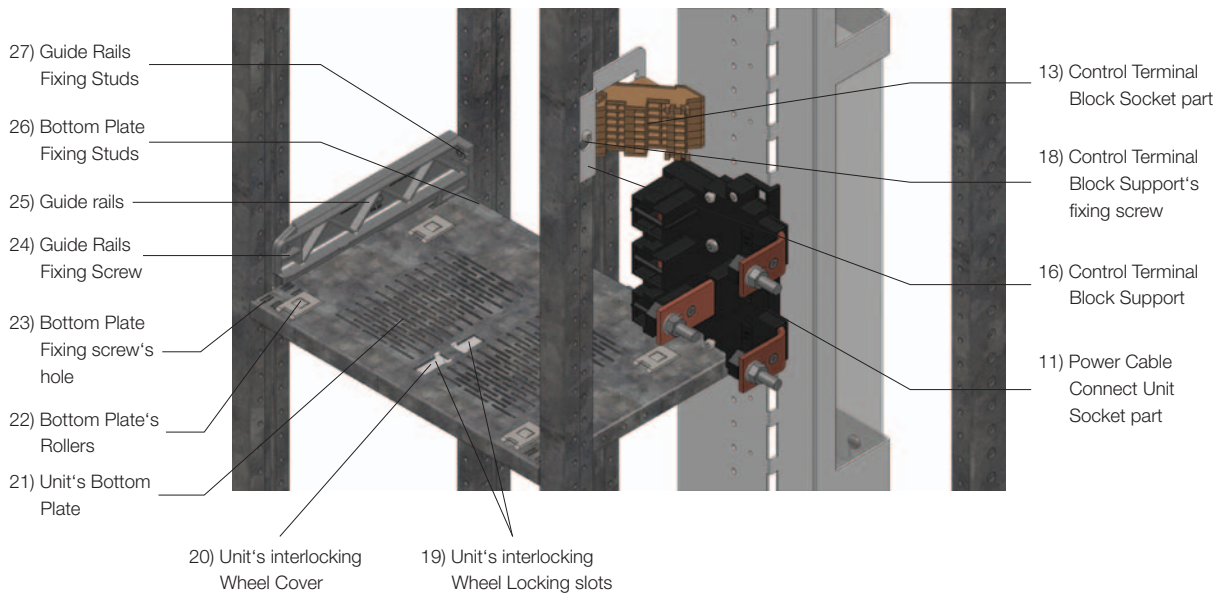

FIGURE 31. Unit Bottom Plate
- Insert two new compartment bottom plates (item 21) with a distance of 12E each and attached them using their studs and screws (items 26 & 24).
- The newly installed bottom plates must be equipped with the left guide rail, and the rollers and covers have to be mounted (items 22 & 20 of fig. 31).
- Mount one control terminal block support (item 16) with one or two 12-pole terminal blocks above each of the newly installed compartment bottom plates on the right-hand side (in the cable compartment) (item 13). If only one, 12-pole terminal block per support is required, it must be mounted in the upper part of the cut-out of the support.
- Install new power cable connection unit (CCU40 or CCU300) (item 11).